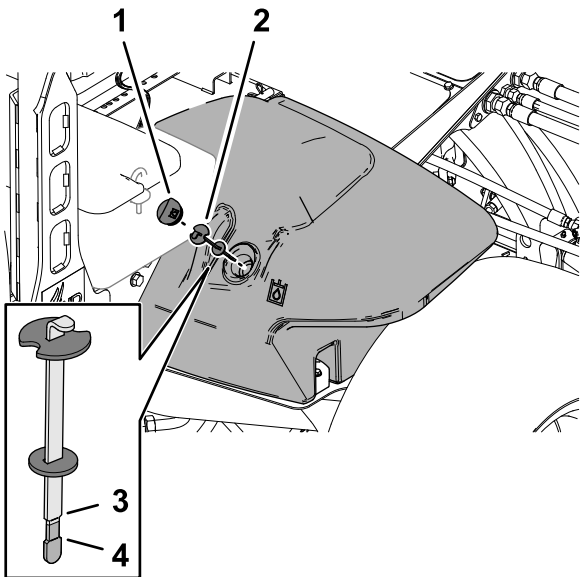

Figure 115
- 2. Clean the area around the filler neck and cap of the hydraulic tank (Figure 115).